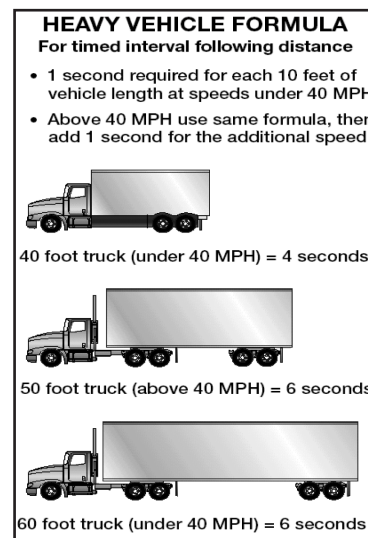

Figure 2.12
**How Much Space?** How much space should you keep in front of you? One good rule says you need at least one second for every 10 feet of vehicle length at speeds below 40 mph. At greater speeds, you must add one second for safety. For example, if you are driving a 40-foot vehicle, you should leave four seconds between you and the vehicle ahead. In a 60-foot rig, you will need six seconds. Over 40 mph, you would need five seconds for a 40-foot vehicle and seven seconds for a 60-foot vehicle. (See Figure 2.12 on previous page.)